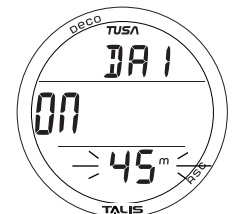

Fig. 93 - SET DEPTH ALARM
**Set DA1**, information includes (Fig. 93):